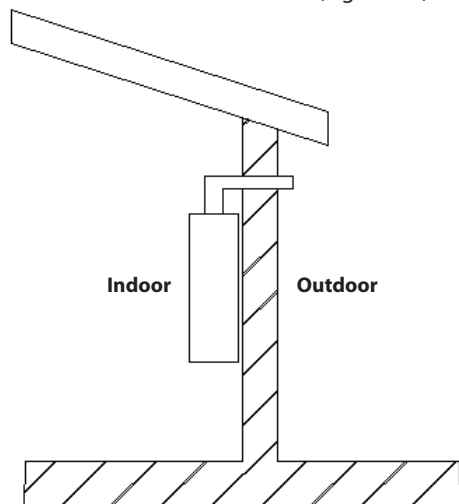

Figure 5.1
- The flue of the gas water heater should be installed through an external wall, the heater cannot be installed outdoors (Figure 5.1).